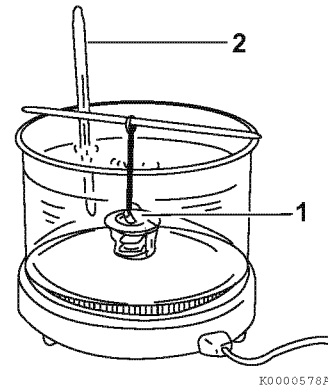

Figure 8-11
1. Check for proper operation of the thermostat. Place the thermostat (Figure 8-11, (1)) and an accurate thermometer (Figure 8-11, (2)) in warm water.